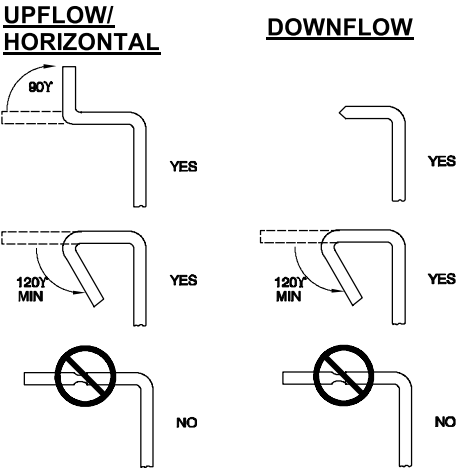

Fig. 17 – Duct Flanges
**NOTE:** It is recommended that the perforated supply-air duct flanges be completely folded over or removed from furnace when installing the furnace on a factory-supplied cased coil or coil box. To remove the supply-air duct flange, use wide duct pliers or hand seamers to bend flange back and forth until it breaks off. Be careful of sharp edges. (Refer to Duct Flanges (Fig. 17) in the "Air Ducts" section.)
Connect supply-air duct to flanges on furnace supply-air outlet. Bend flange upward to 90° with wide duct pliers. (See Fig. 17). The supply-air duct must be connected to **ONLY** the furnace supply-outlet-air duct
Connect supply-air duct to supply-air outlet on furnace. Bend flange inward past 90° with wide duct pliers (See Fig. 17). The supply-air duct must be connected to **ONLY** the furnace supply outlet or air conditioning coil casing (when used). When installed on combustible material, supply-air duct must be connected to **ONLY** the factory-approved accessory subbase, or a factory-approved air conditioning coil casing. DO NOT cut main furnace casing to attach supply side air duct, humidifier, or other accessories. All accessories **MUST** be connected to duct external to furnace casing.